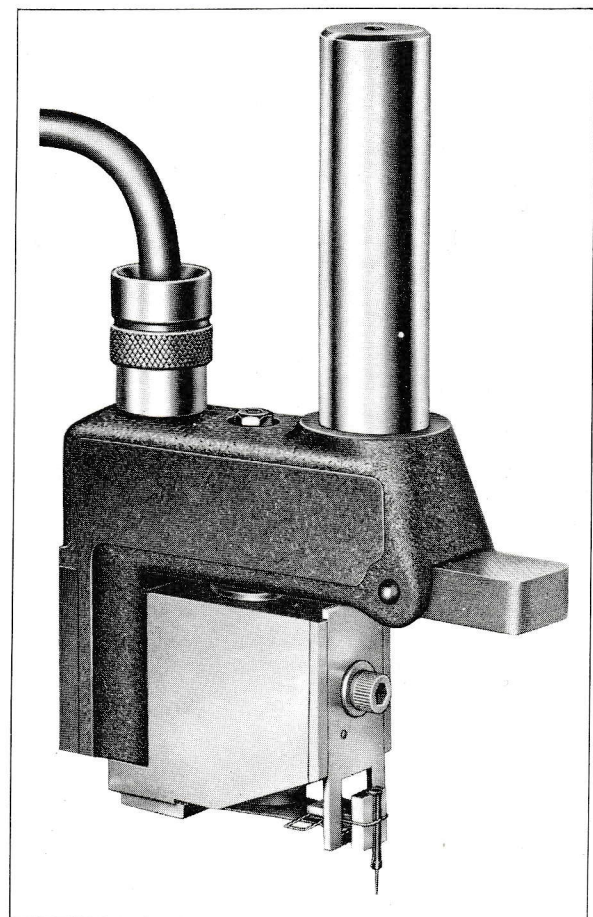

FIG. 22
**The single 'Javelin' etcher**, Fig. 22, will mark most smooth metal surfaces, is quick, clean and safe and no prior or after treatment of the surface is necessary. Etching is effected by rapid electric sparking at the point of a vibrating electrode (the 'Javelin'). The 'Javelin' etcher is fitted in place of the cutter spindle and clamped in the spindle jacket. The spindle drive belt and stay rod are removed and swung clear of the cutter frame. The feed mechanism may be left in position but is not used with the etcher, the work being brought to the 'Javelin' by means of the worktable vertical feed. Full operating instructions are issued with the equipment.